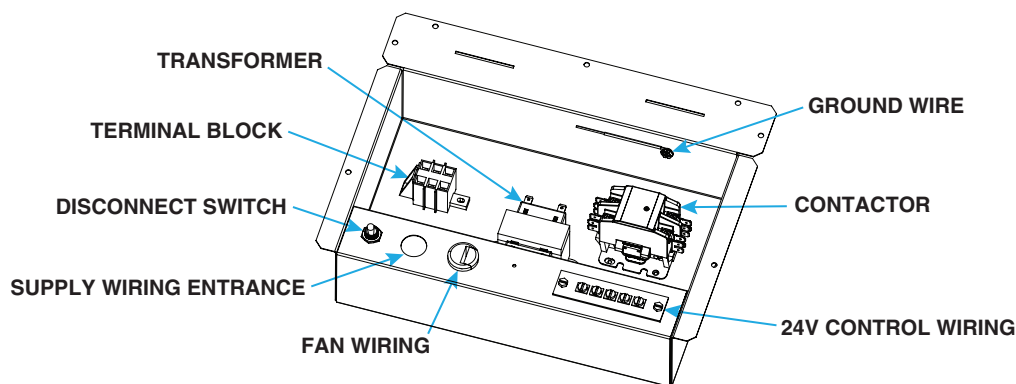

Figure 3. Typical Control Box
- The supply wiring enters as shown in **Figure 3** and connects to pigtail leads from the disconnect switch (see **Figure 3**) and ground wire.
- The terminal strip for 24V control connections is located on the outside of the control box at the back of the unit as shown in **Figure 3**. The strip has five terminals: C, R, G, W1, and W2.
A disconnect toggle switch (see Figure 3) on the back of the unit turns the unit ON and OFF. During normal use, this switch is ON. Ensure that this switch is OFF before servicing the unit.